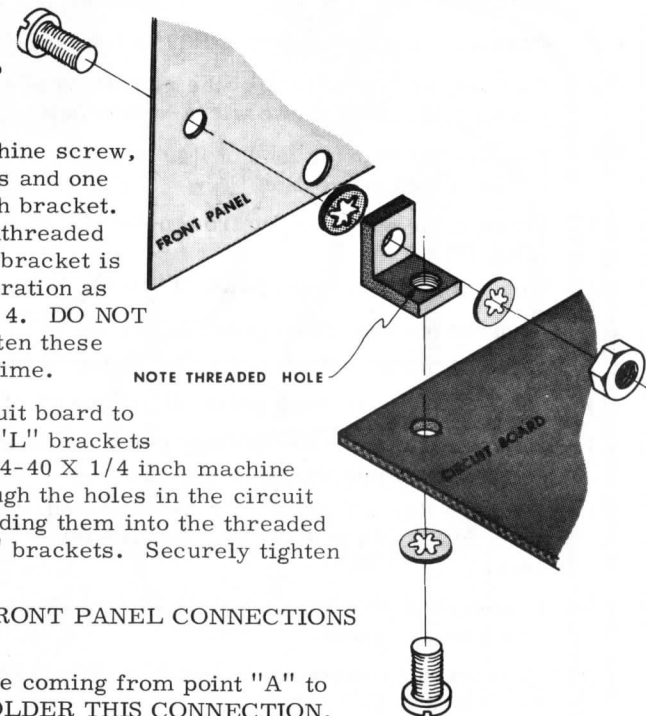

Figure 4
- () Fasten the two "L" brackets to the front panel using one 4-40 X 1/4 inch machine screw, two lockwashers and one 4-40 nut on each bracket. Note that the unthreaded hole in the "L" bracket is used in this operation as shown in figure 4. DO NOT completely tighten these screws at this time.